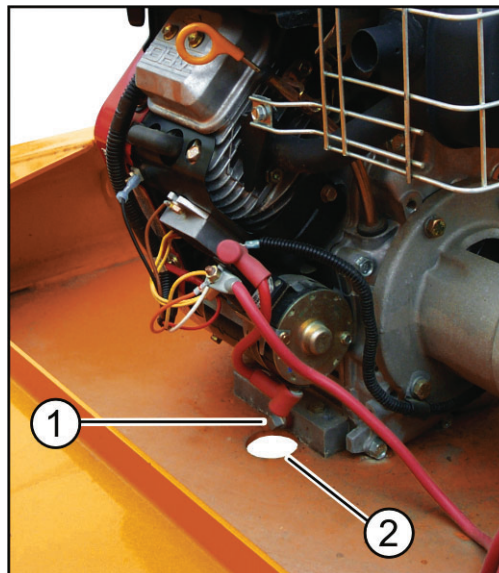

Figure 5-7
3. Place a collection container with a capacity of at least 2 quarts (1.9 l) under the machine directly beneath the round opening indicated at 2, Figure 5-7.
4. Remove the engine oil drain plug (1, Figure 5-7) to allow the used oil to drain through the round opening to the collection container.